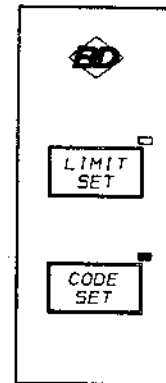

Figure 17
- Press the code set button on the powerhead. The CODE SET LED light will come on indicating that the unit is in code set mode (Figure 17).